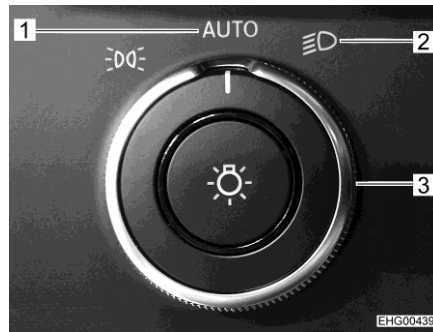

Fig. 14 Rotary light switch
- Turn the Mercedes rotary light switch (Fig. 14,3) to the position "AUTO" (Fig. 14,1) or to the position Driving light (Fig. 14,2).